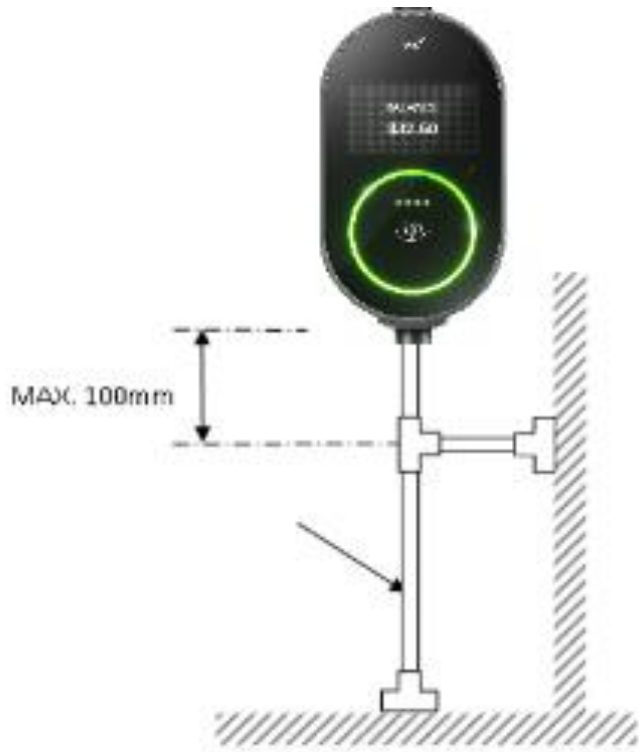

Figure 14: Adept Validator Preferred Pole Mounting Bracing
- The preferred Compact Validator pole mounting bracing is shown in Figure 14.